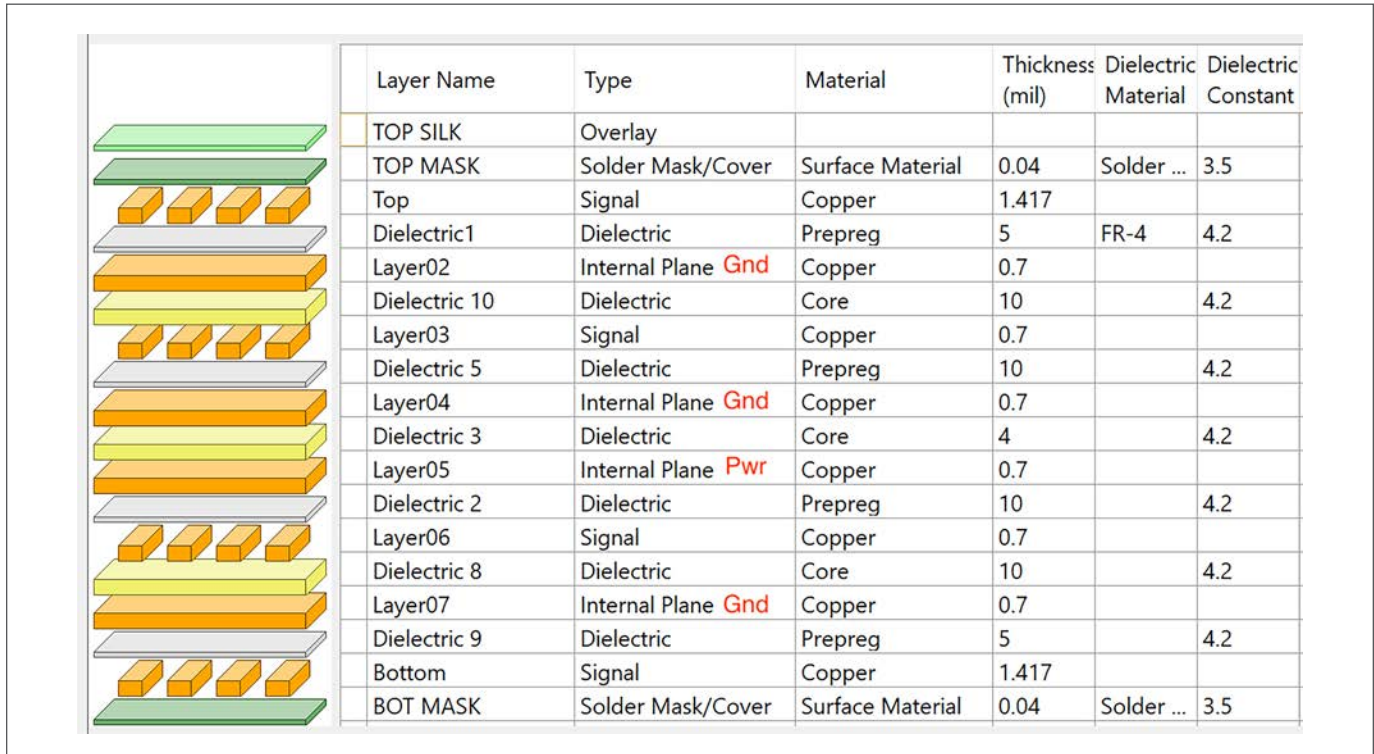
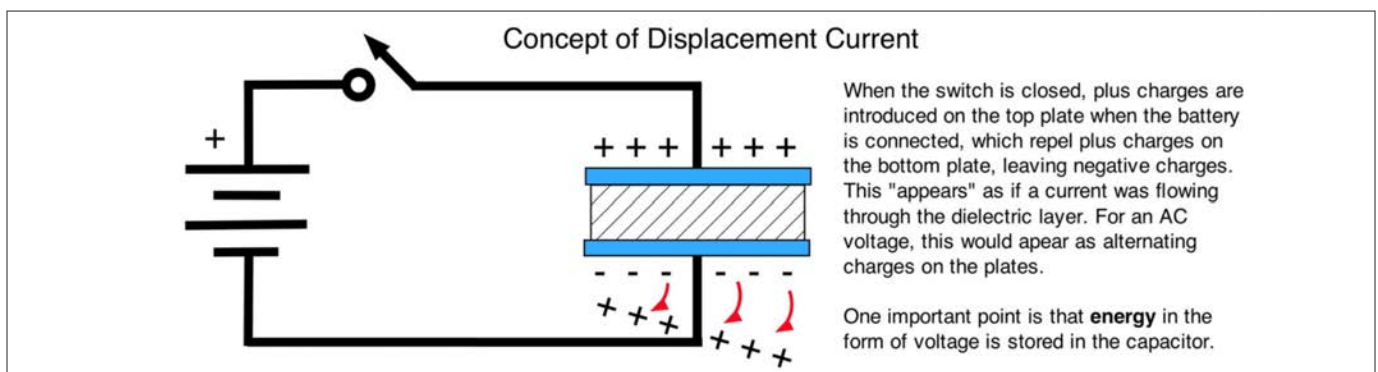

Figure 2 - A good EMI stack-up design (8-layer example). All signal layers are referenced to an adjacent GRP, while power is also referenced to an adjacent GRP.
Figure 1. The concept of displacement current through a capacitor.
- 2. Use a proper PC board stack-up.** Most of my clients get this wrong (*Figure 1*). All signal layers must have an adjacent ground reference plane (GRP) and all power traces (or planes) must also have an adjacent GRP (*Figure 2*, see page 18). This is because all microstrip, stripline, and power routing should be considered transmission lines in today’s fast digital technology. If this rule is not followed, expect noise and signal coupling between circuits (one form of crosstalk), radiated EMI, and board edge radiation directly into the antenna.
Figure 1 - A very common, but poor, EMI stack-up design (6-layer example). Signal layers 4 and 6 are referenced to power, while the GRP and power planes are non-adjacent with two signal layers in between. This will couple power transients on those two signal layers.
First, let's consider how capacitors seemingly allow the "flow" of electrons. Referring to *Figure 1*, if we apply a battery to the capacitor, any positive charges applied to the top plate will repel positive charges on the bottom plate, leaving negative charges. If we apply an AC source to the capacitor, it might seem as if the current flows through the dielectric, which is impossible. James Clerk Maxwell called this "displacement current," where positive charges merely displace positive charges on the opposite plate leaving negative charges, and vice versa. This displacement current is defined as  $dE/dt$  (changing E-field with time).